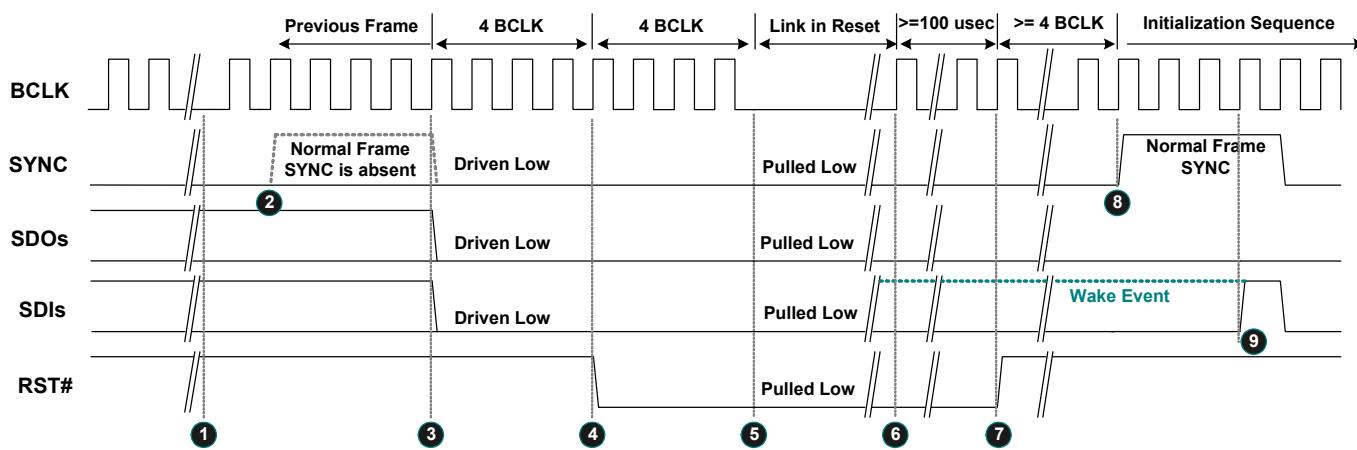

Figure 14. Link Reset Timing
3. Software initiates power management sequences. Figure 14, page 21, shows the ‘Link Reset’ timing including the ‘Enter’ sequence (❶~❽) and ‘Exit’ sequence (❾~❿)